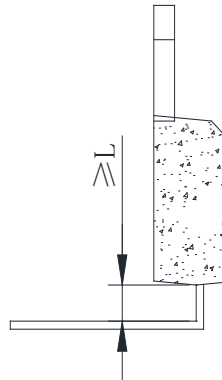

Fig. 4 Lead bending vertically
- When bending the leads vertically (perpendicular to the silk screen surface of the device), as shown in Figure 4, bend at a certain distance L (refer to table 1) from the body. See Table 1 below for details.